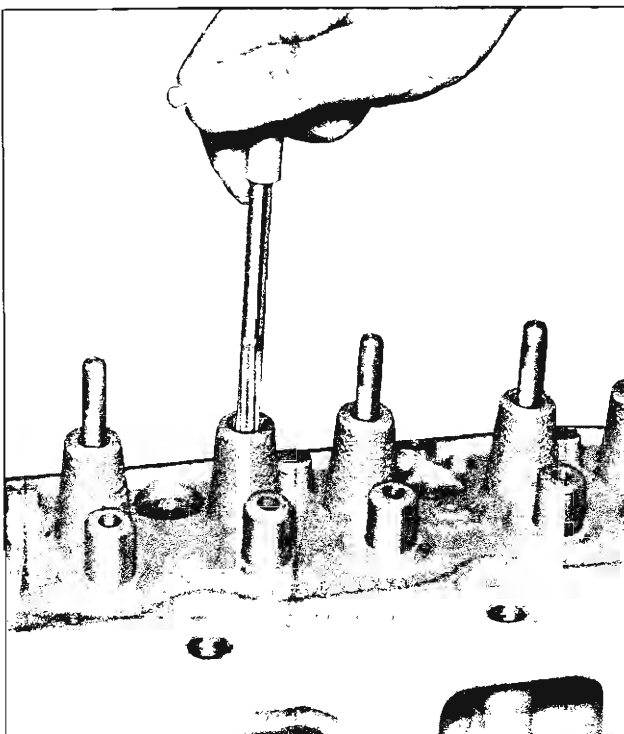

Fig. 15—Reaming Rocker Arm Stud Hole
2. Ream hole for oversize stud, using Tool J-5715 for .003" oversize and Tool J-6036 for .013" oversize (fig. 15).